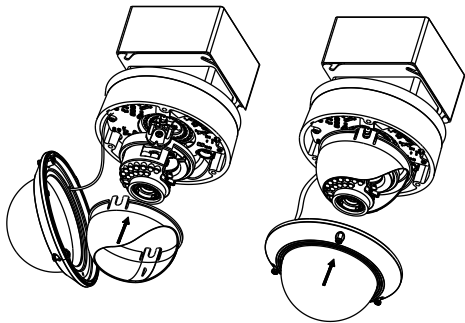

Figure 2-10 Secure the Bubble
10. Tighten the cover screws to secure the cover/bubble to the camera as shown in Figure 2-10.